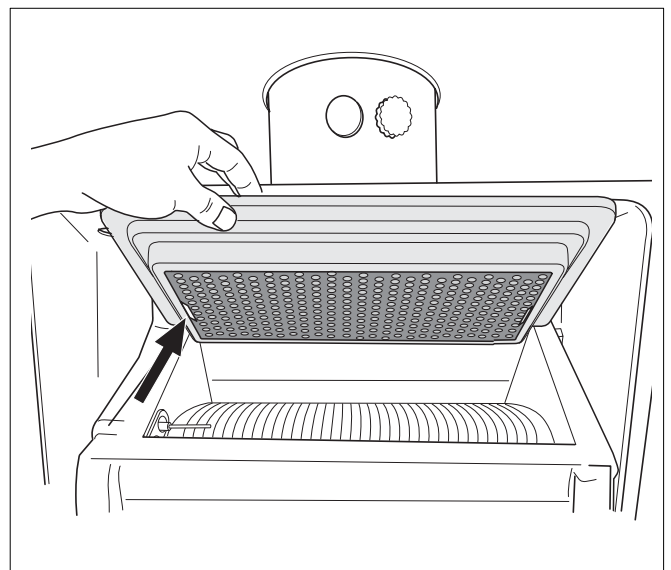

Fig. 110 Installing the burner
- Install the new burner (see fig. 110).
Fit the burner so that the scale mark is located on the left-hand side (see fig. 110).